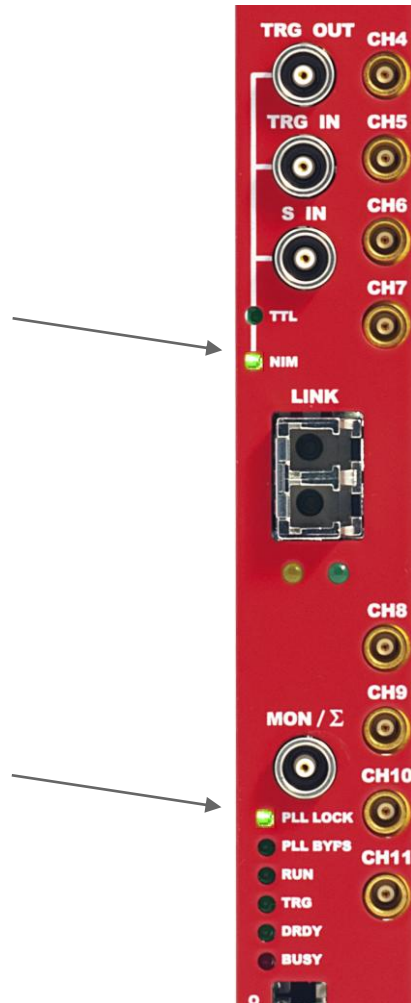

Fig. 13.1: Front panel LEDs status at power-on
- After power-on, only the NIM and PLL LOCK LEDs must lit (see Fig. 13.1).
In the case of an upgrade failure (e.g. STD page is corrupted), users can try to reboot the board: after a power cycle, the system automatically programs the board from the alternative FLASH page (e.g. BKP FLASH page), if this is not corrupted as well (see **Fig. 13.1**). It is then possible to perform a further firmware upgrade to restore the corrupted page.
- If the LED status is compliant to **Fig. 13.1**, then the board is operative again